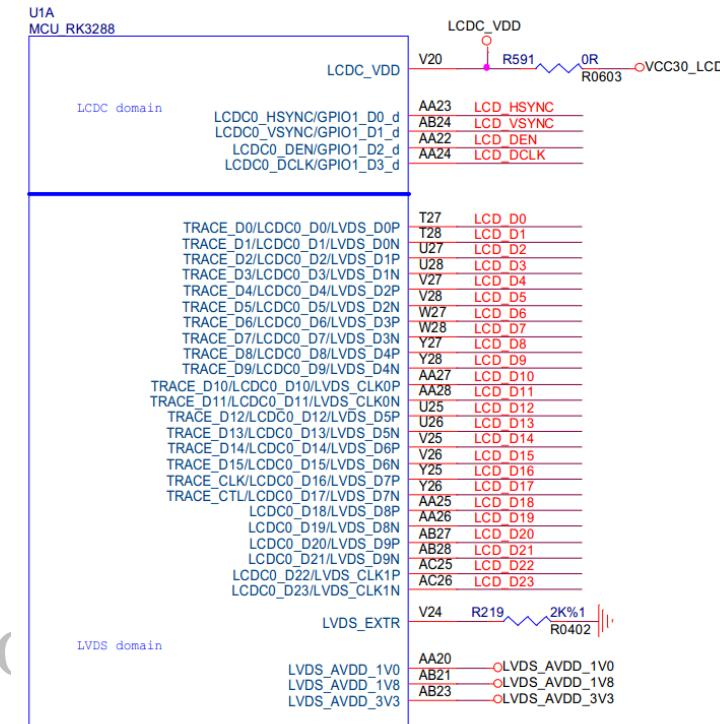

Figure 14-1
- RK3288 supports various video output modes like Parallel RGB, LVDS, MIPI, eDP, HDMI etc. The reference resistances of MIPI, LVDS, HDMI PHY please choose 1% accuracy and eDP is unnecessary to connect the external reference resistance, shown as Figure 14-1 to Figure 14-5.